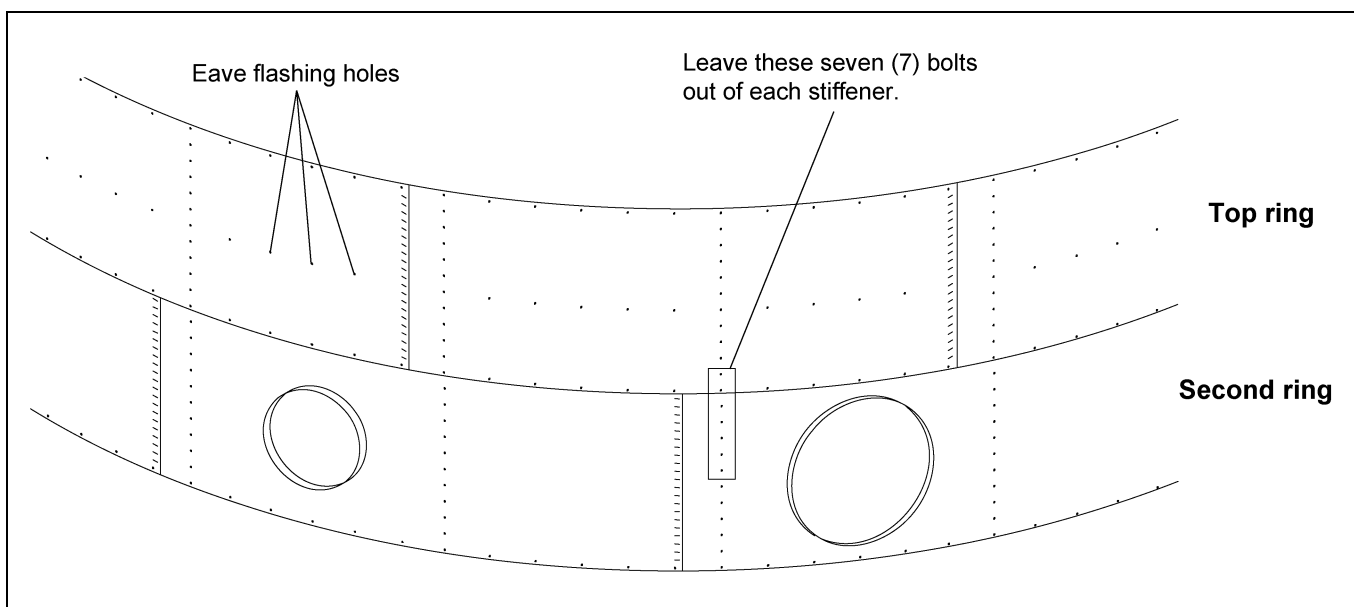

Figure 5D Top 2 Rings
NOTE: The fan entrance sheet and access door are located in the second ring. Attach the top stiffeners, leaving out the seven (7) bolts indicated in Figure 5D at each stiffener location. Install the flashing bolts from the outside.